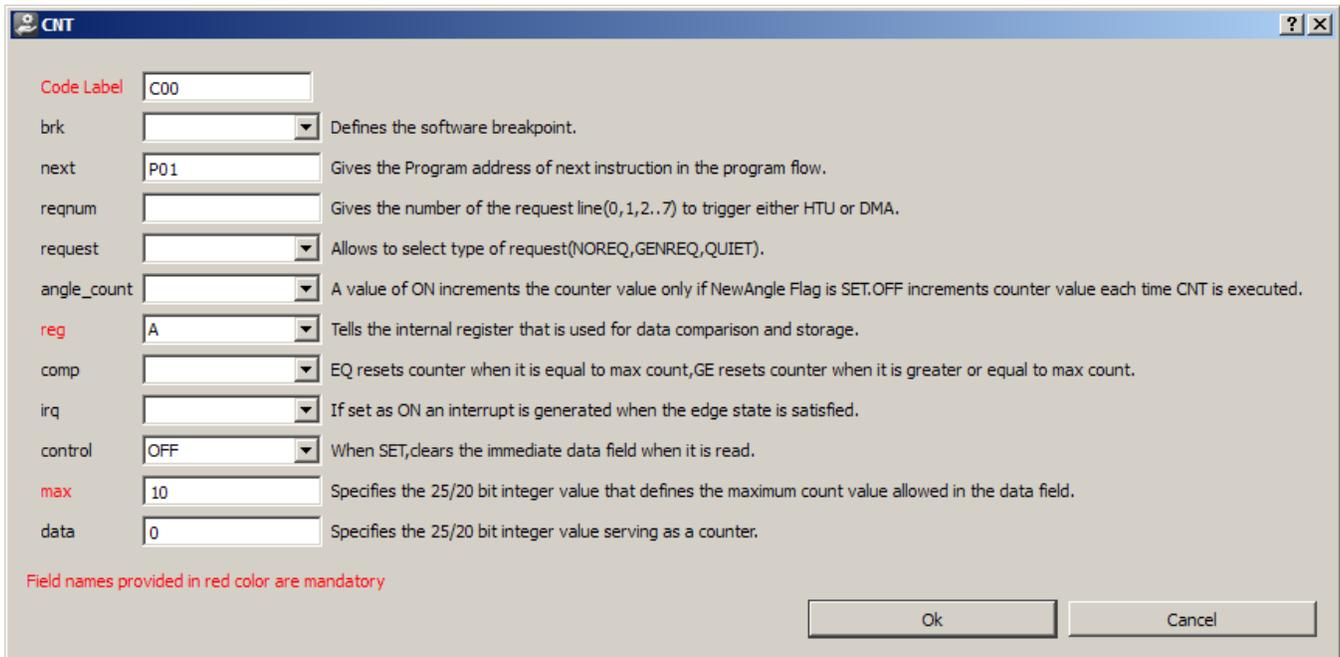

Figure 15. Completed CNT Instruction Wizard
- Populate the CNT instruction wizard (see Figure 15). The label should be C00. The next field could be blank, in which case the assembler will choose the next instruction in the program. In this case, it is explicitly specified as P01. Note that the next instruction is not **required** to be sequential and can be any instruction. We want the counter to count between 0, 1, 2, .. 10 and then roll over to begin at 0 again. So, a max value of 10 and an initial data value of 0 is placed in the wizard. Also, the count should be placed in register A. When you've completed populating the CNT instruction wizard, press OK.